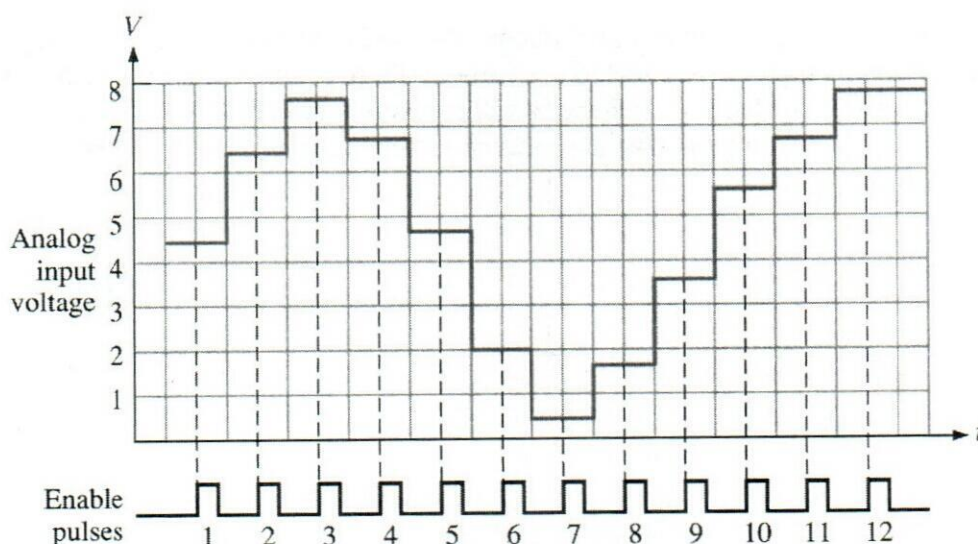

Figure 1: ADC Input Waveform
- (b) Consider a 3-bit flash ADC with reference voltage set to 8V. Determine the binary code output of the 3-bit flash ADC for the input signal and the encoder enable pulses given in Figure 1 and the resulting digital output waveform. (06 Marks)